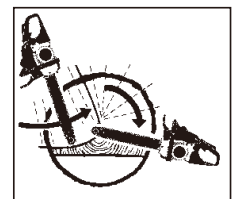

Fig. 11D
2. When diameter of wood being cut is greater than the bar length, make 2 cuts as shown (Fig.11D).